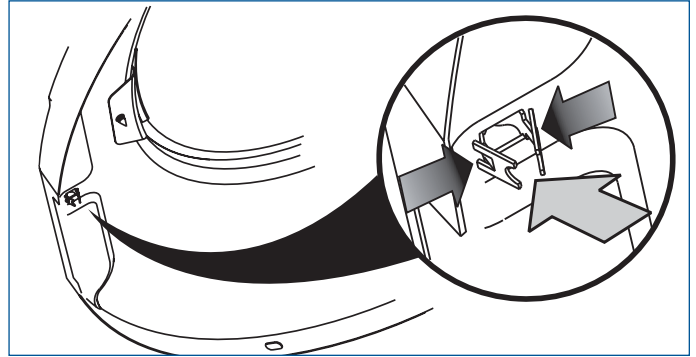

Figure 4-4.
1. Turn inner door assembly over to expose retaining tabs of metal door strike. Grip tabs with pliers, compress and push through door panel. (See Figure 4-4)